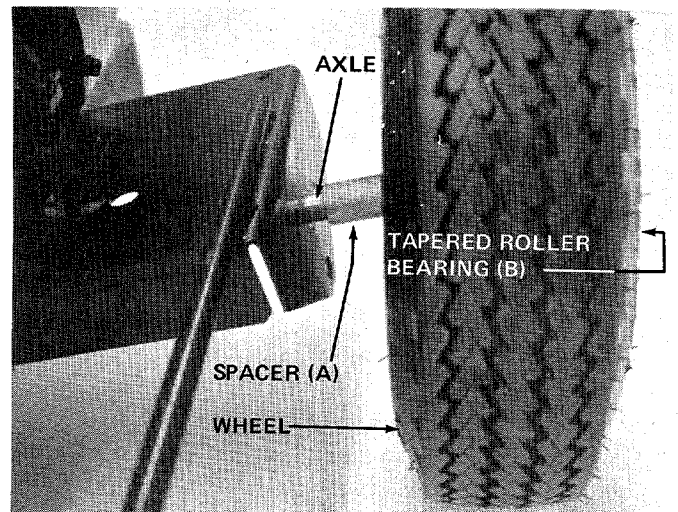

FIGURE 2
2. Place one spacer (A) on axle, next one wheel, and tapered roller bearing (B). See figure 2.